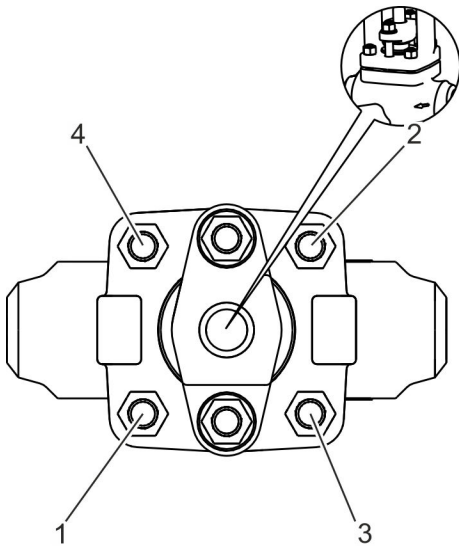

Fig. 52: Tightening the nuts in a cross pattern
56. Tighten the nuts on the bonnet in a cross pattern with the prescribed tightening torque (Fig. 52/1–4).